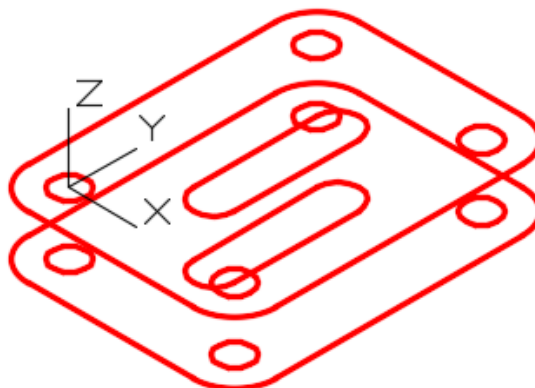

Figure Step 6
Step 6 Move the UCS to lie on top of the model as shown in the figure. Ensure that the positive Z axis is up and it is located at the centre of the circle. (Figure Step 6)